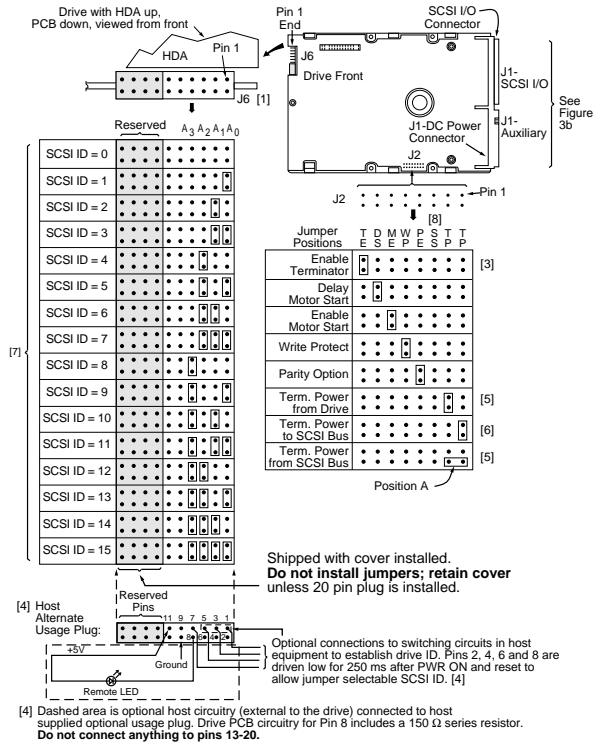

Figure 3a. Drive configurator Hawk 4 family ST15230W/WD model (Wide bus)
On "W" and "WD" model drives, make sure that the SCSI bus address jumper plugs are properly set for the bus address assigned to the drive. In some systems, a cable plugs into either J6 or J1 auxiliary, so drive ID can be set at some remote location. See Figures 3a and 3b showing the bus address select header and the jumper configurations that select addresses 0 through 15. ID 7 has the highest priority during bus arbitration on (both 8 and 16 device systems). Bus arbitration priority decreases to ID 0, then ID 15 down to ID 8. ID 8 is the very lowest priority. Typically the primary boot device is set to ID 0 the host is ID 7, and the subsequent SCSI drives are jumpered as appropriate for the particular system involved.
Model ST15230W family drives have I/O line terminator resistors that are permanently installed, but can be enabled or disabled by jumper plug. See jumper in Figure 3a. If you are installing a single drive, the terminator resistors must remain enabled. If you are installing multiple hard disc drives, disable the termination resistors from all the drives but the one connected to the end of the SCSI I/O cable.
Model numbers that end in "WD and DC" have differential I/O circuits and these drives and "WC" model drives have no provisions for terminators on the drive PCB. The system manufacturer must provide some external means of I/O line termination. The ST15230W/WD drives can provide power for external terminators if the **TP** jumper is installed on the last position on the right end of J2. See Figure 3a. Do not mix "W" model and "WD" model drives on the same I/O bus. Do not mix "WC" and "DC" model drives on the same bus.
Some systems require parity bit checking. Consult the system documentation for the specific requirements. See Figure 3a for location of Parity Bit enable jumper. Jumper-installed enables parity reporting by the SCSI bus.
On Hawk 4 family, W/WD model drives either J6 (on the front of the drive) or J1-auxiliary (at the rear, beside the DC Power connector) may be used to set the drive ID. To avoid possible incorrect ID setting, do not use both J1-auxiliary and J6 for ID selection. The following figures show where these headers are located on the different drives covered by this manual. See notes following Figures 3a and 3b where explanations are given about the purpose of each jumper and specify the standard factory (called "default") settings of these jumpers (i.e., settings used for most common single drive application). Changes to these settings should be made only if it is known that the system requires a different configuration.
Notes for Figure 3a, 3b and 3c:
- [3] Drive ID may be established by installing jumper plugs in one of the patterns shown in Figures 3a, 3b and 3c, or by plugging onto J6 or J1-auxiliary a cable that leads to an external ID selection circuit. Both jumper plugs and an external ID selection source should not be used. See [4] for other functions of these two headers that are time-shared with the drive ID function.